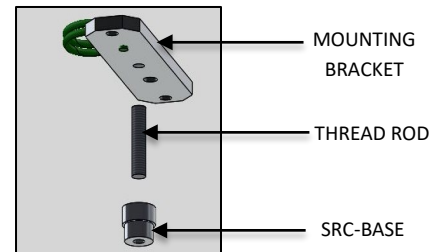

FIG. 28 – THREAD ROD INSTALLATION
10. Screw the THREAD ROD into the top of the SRC-BASE until fully seated. Then assemble the THREADED ROD/ SRC-BASE into the center hole of the MOUNTING BRACKET until SRC-BASE is fully seated against MOUNTING BRACKET as shown below in FIG. 28.